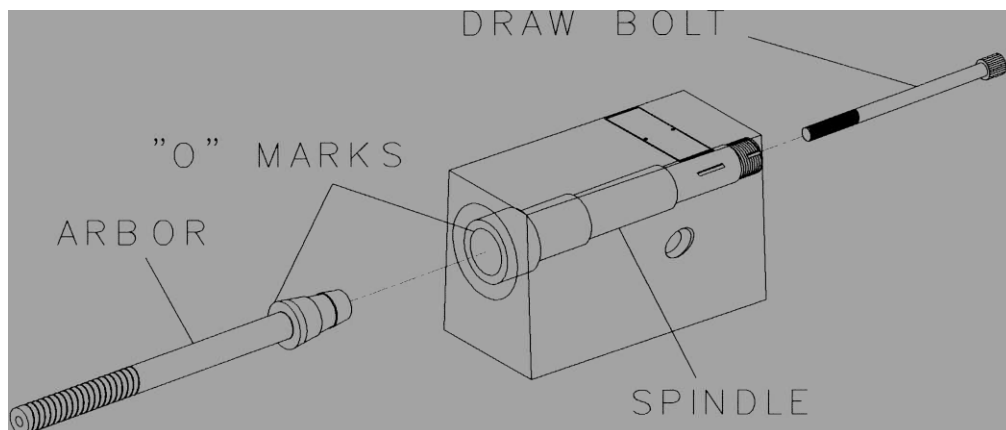

Fig. 11 Changing lathe arbor
- 1 Loosen the draw bolt three or four turns using an Allen wrench. See fig.11.